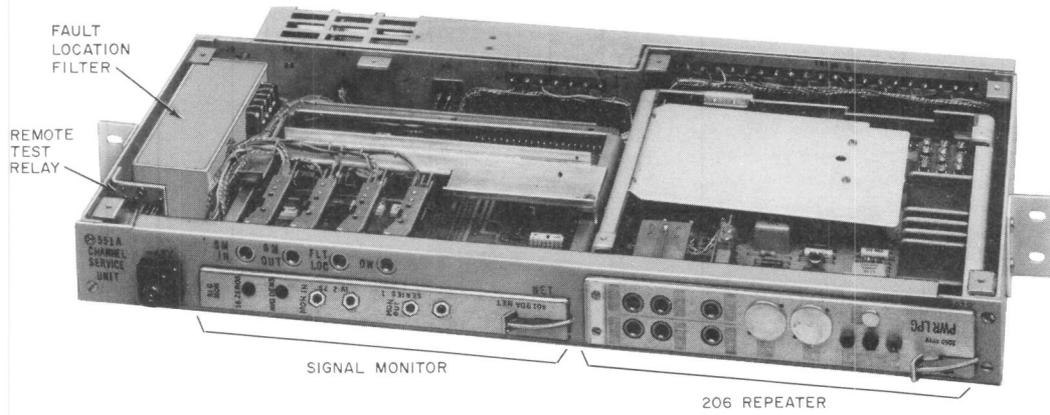

Fig. 3—551A CSU—Cover Removed
3.03 A 598-type fault location filter is provided on an optional basis (Fig. 3). The fault location filter is not part of the 551A CSU and must be ordered separately. The particular code of the fault location filter is determined by the T1 line installation. To install the fault location filter, remove the top and rear covers and the 4019DA or 4019DL circuit pack. Connect the four spade tipped leads (stored in the chassis) to the terminal board on the filter. Dress the